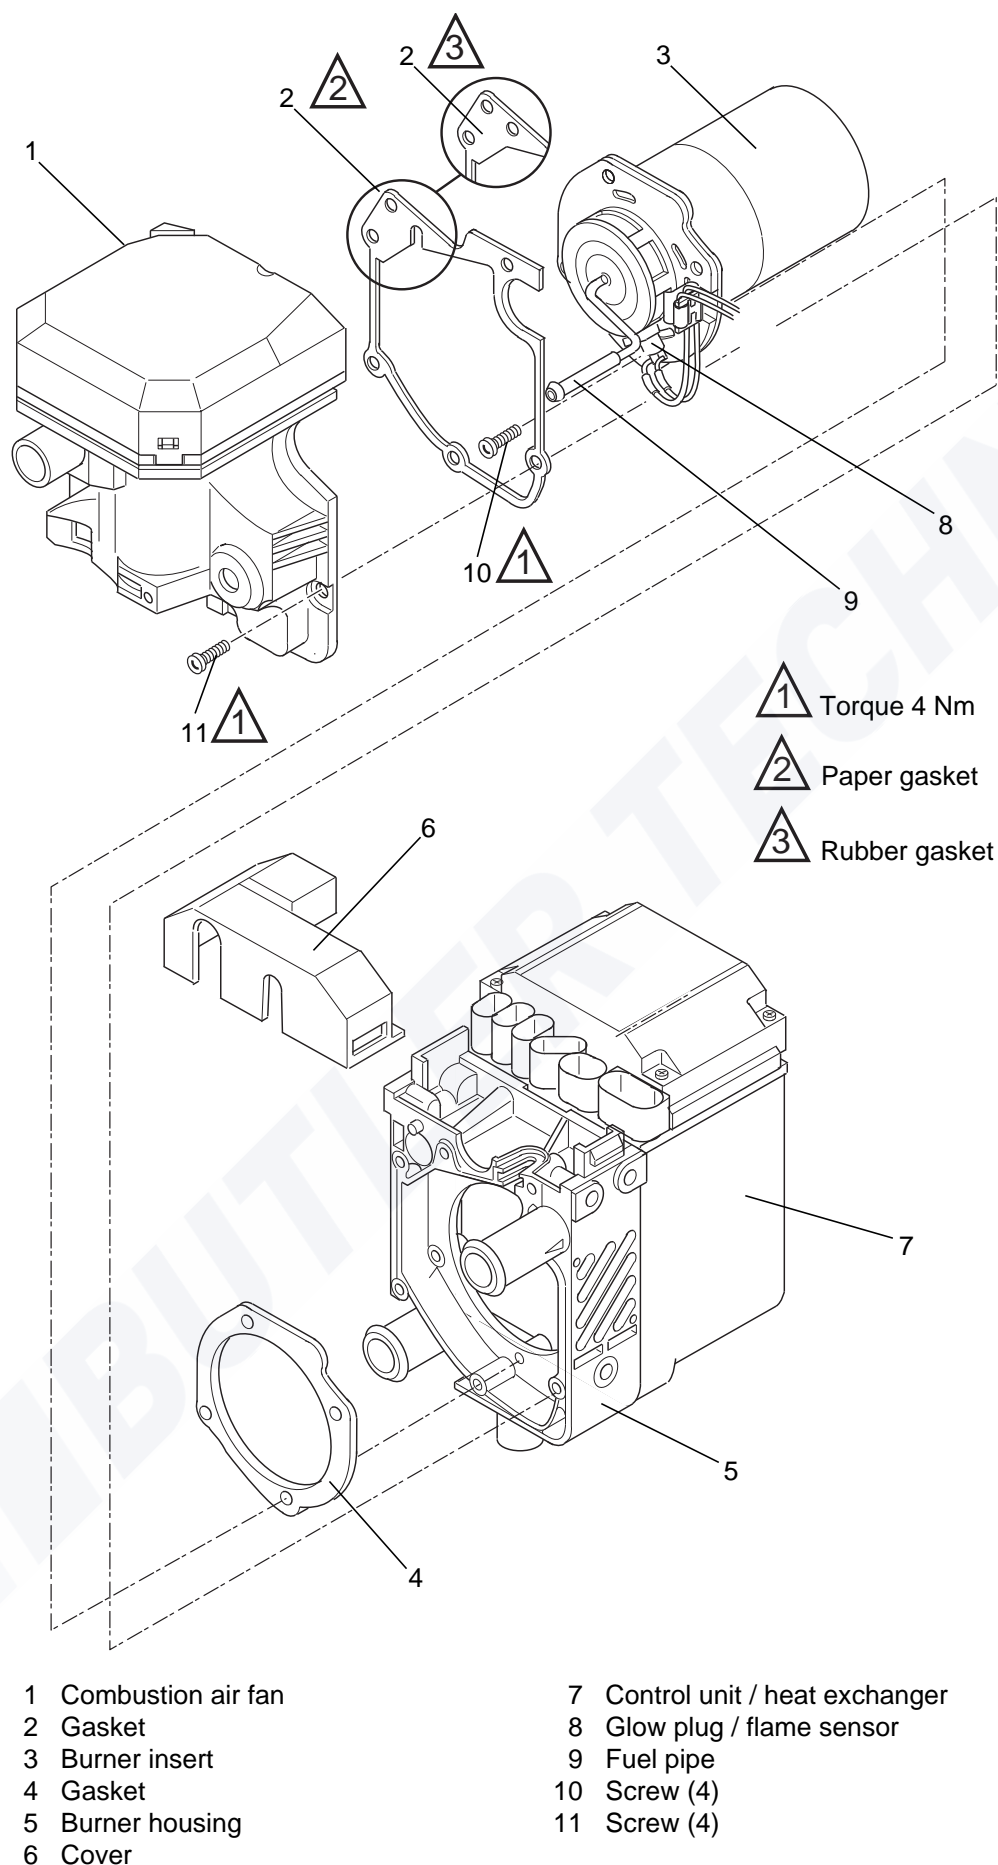

Fig. 902 Heater Disassembly
1. Carefully lever off cover (6, Fig. 902).
3. Remove screws (11).
4. Withdraw combustion air fan (1) from burner housing (5) and fuel pipe (9).
5. Remove gasket (2) and discard.
For the sealing between combustion air fan and burner housing two gaskets (2, Fig. 902) are available or contained in the spares kit. One paper gasket and one rubber gasket with beads on one side to be used as follows:
2. Push grommet of cable of glow plug / flame sensor (8, Fig. 902) out of burner housing (5).
3. Remove screws (10).
4. Withdraw burner insert (3) with glow plug / flame sensor (8) from burner housing (5).
5. Remove gasket (4) and discard.
4. Withdraw burner insert (3) with glow plug / flame sensor (8) from burner housing (5) and remove.
1. Position new gasket (4, Fig. 902) on burner housing (5).
2. Position burner insert (3) for assembly and secure with screws (10). Torque tighten screws to 4 ± 0.4 Nm.
3. Press grommet of glow plug / flame sensor cable into burner housing (5).